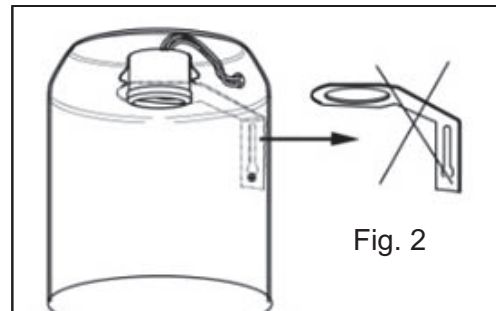

Fig. 2
2) Adjust the position of the socket plate to its maximum height in the housing. If at this maximum height the distance from the socket to the rough-in section opening is less than 3.75" (95mm), detach the socket from the socket plate (Figure 2) and remove plate.